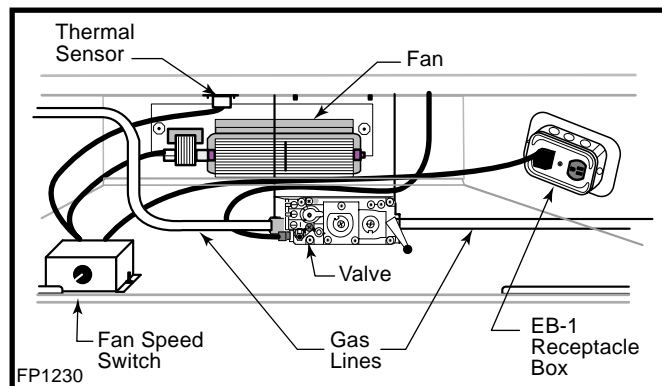

Fig. 51 FK24 fan placement.
3. Locate the fan speed control unit. This can be fitted behind the lower louvre assembly as in Figure 51 or located remotely in a conveniently located wall mounted electrical box. Remote location of the speed control will require suitable extension of the component wiring.